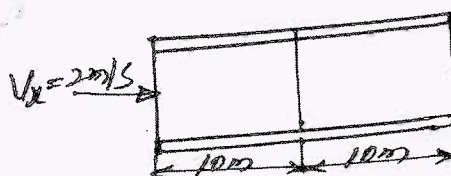

Fig.Q8(b)
b. For the smooth pipe with uniform cross-section of 1m² as shown in Fig.Q8(b). Determine the flow velocities at the center and right end, by knowing the velocity at the left is $V_x = 2\text{m/sec}$. (10 Marks)